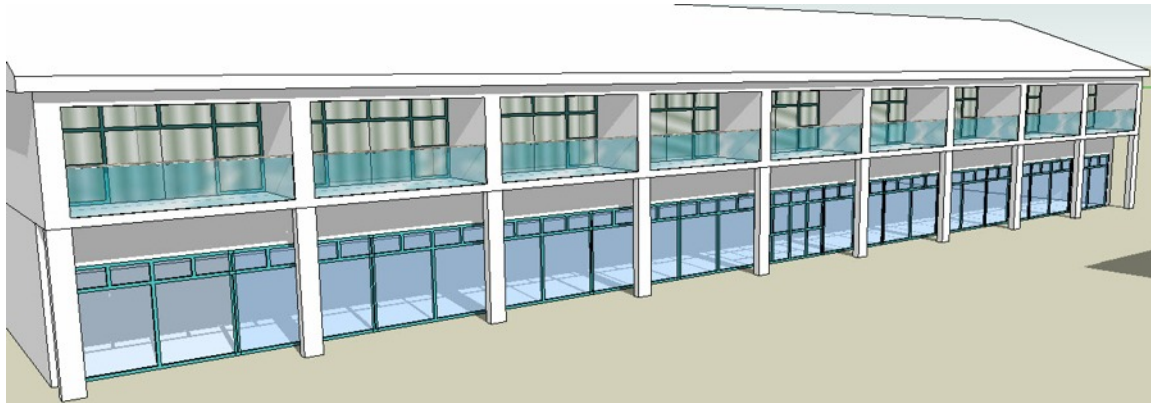

Figure 69. Completed balustrades in position
- Use the **Paint Bucket** tool to add materials to the handrail and face of the balustrade. I used **Water Pool (1)** and in the **Edit** tab I increased the spacing to create a glass effect on the face of the balustrade. To complete the handrail I used **Water Stream Shallow** and again increased the spacing to obtain a matt chrome reflective effect.
- Insert the **balustrade** component along the balconies ensuring that they are recessed 50mm in from the balcony edge as shown in Figure 69.